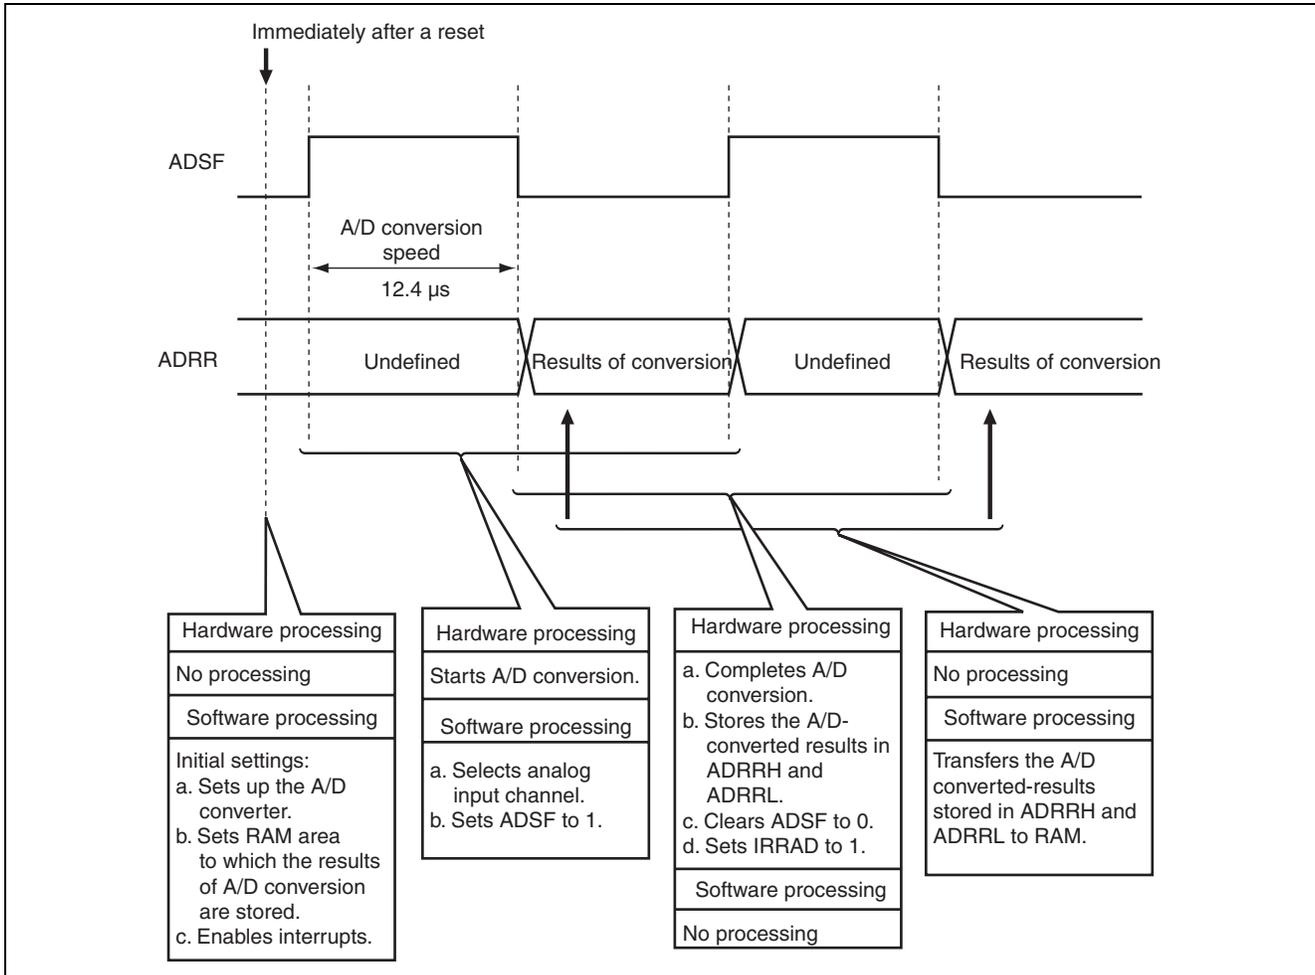

Figure 3.1 Operation Principle of Voltage Measurement by 4-Channel A/D Conversion
1. Figure 3.1 illustrates the principle of operation of this sample task. Voltage measurement by 4-channel A/D conversion is implemented through the hardware processing and software processing shown in the figure.